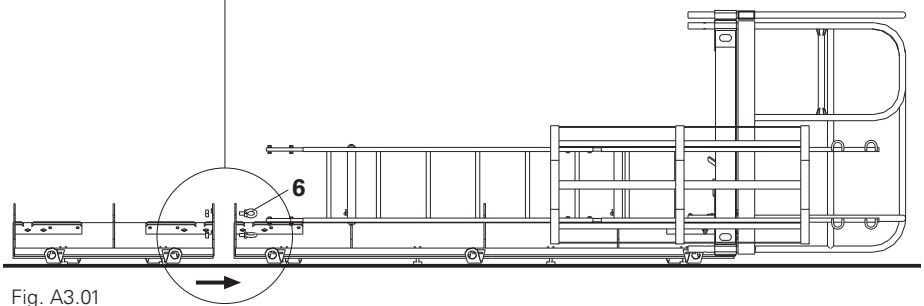

Fig. A3.01
3. Connect using Eye Bolts (6). The nuts are secured against over-tightening through a limit stop. (Fig. A3.01)